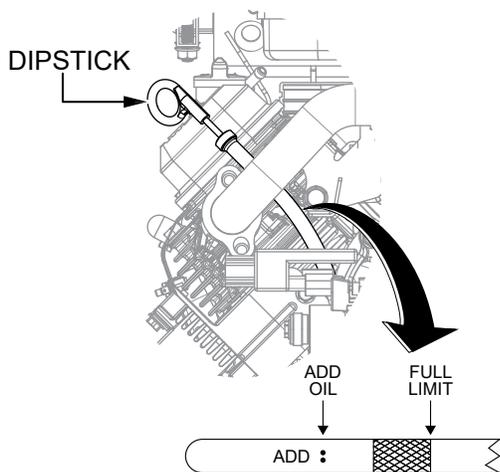

Figure 32. Engine Oil Dipstick
2. Pull the engine oil dipstick (Figure 32) out of its holder and wipe it with a clean rag.
4. Determine if engine oil is low. Oil should be between the upper and lower marks (Figure 32) on the dipstick.